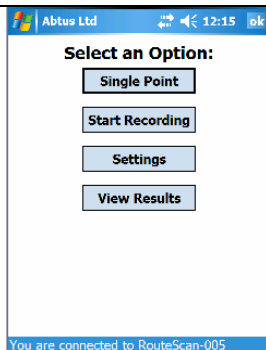
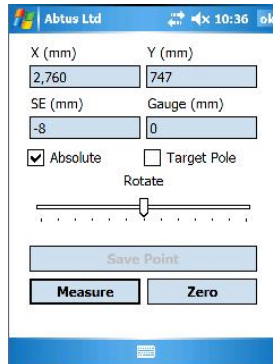

Figure 3
Figure 5
6. When the connection has been made, the 'Options' screen is displayed (Figure 3)
1. Select 'Single Point' from the 'Options' screen (Figure 3) – this will display the 'Single Point' screen (Figure 5)